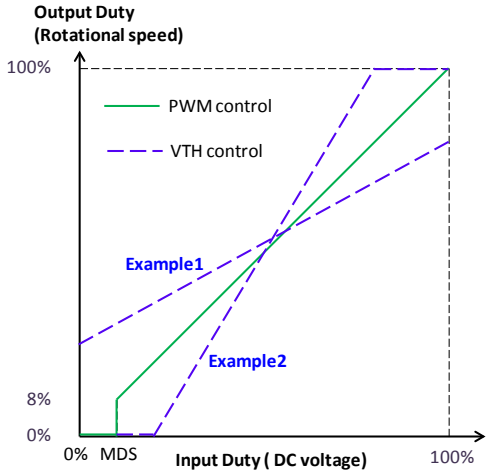

Figure 18: Image of speed control by DC voltage
It has more flexibility and can select min speed setting when rotational speed is controlled by DC voltage. When the speed controlled by PWM pulse, min speed setting cannot be selected. Slope of the DC voltage and rotational speed are adjustable. (Figure 18)
**Case1 (Example1 of Figure 18)**
**Case2 (Example2 of Figure 18)**